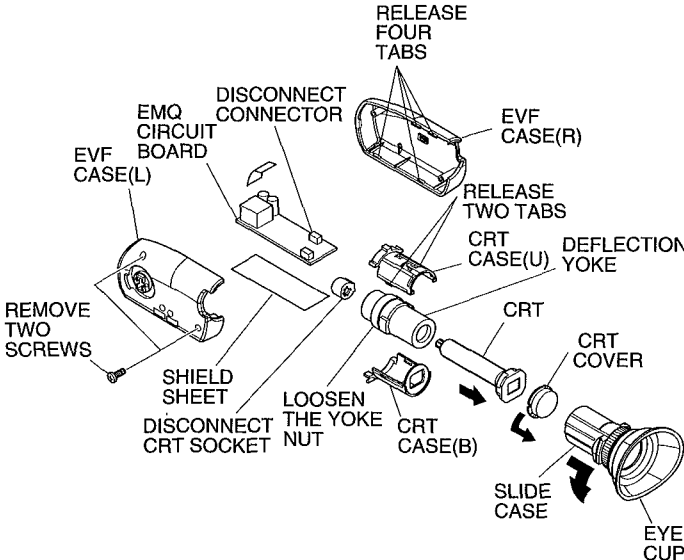

Fig. 2-14
2.13 Slide Case (Eye Cup), EVF Case (L) & (R), EMQ Circuit Board, CRT (Fig. 2-14)